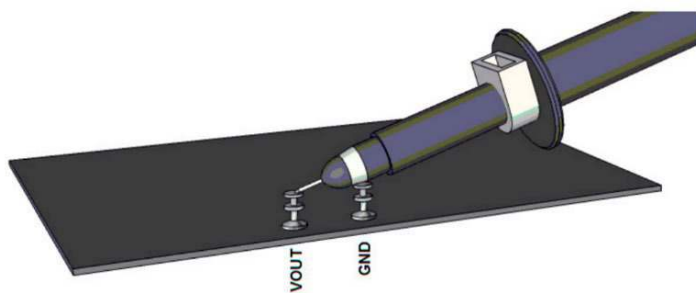
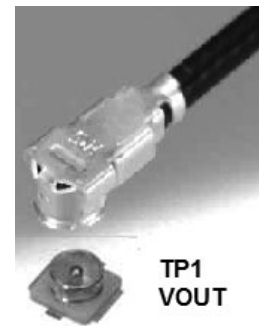

Figure 3. Technique for Measuring Output Ripple and Step Response
Figure 4. Technique for Measuring Output Ripple and Step Response with a Low Inductance Connector (Not Supplied)
NOTE: For accurate V_{IN} , V_{OUT} and efficiency measurements, measure V_{IN} at the VIN SNSE and GND SNSN turrets, and measure V_{OUT} at the VOUT SNSE and GND SNSE turrets. When measuring the input or output ripple, care must be taken to avoid a long ground lead on the oscilloscope probe. It is recommended to use technique shown in Figure 3 and Figure 4 for basic ripple measurement.
3. Connect an oscilloscope voltage probe as shown in Figure 3, between VOUT SNSE and GND SNSE turrets. Set channel to AC-coupled, voltage scale to 20mV, and time base to $10\mu s/div$. Check V_{OUT} ripple voltage. Output voltage ripple can also be measured with a low inductance connector on TP1, as shown in Figure 4.